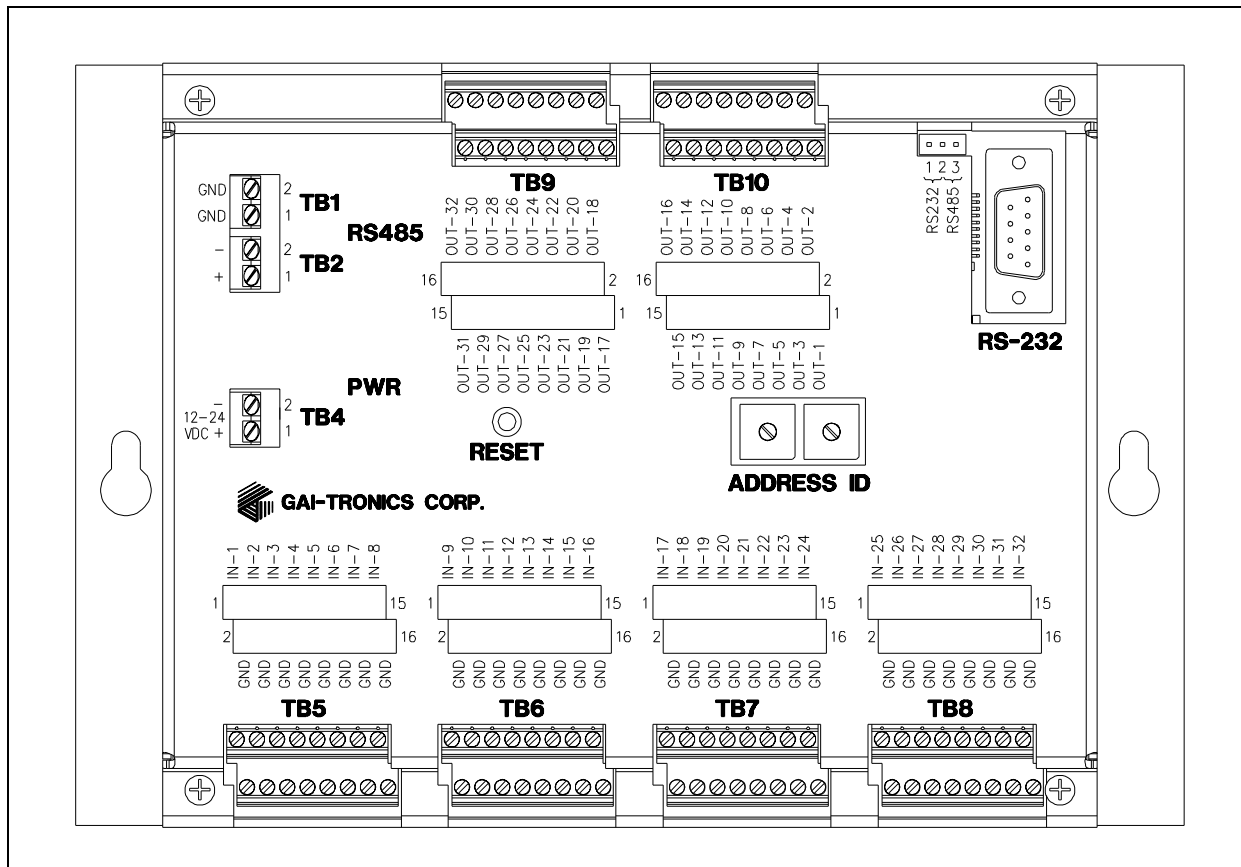

Figure 10. I/O Module Terminal Block Layout
**NOTE:** The ground connections for the outputs on the I/O controller are TB1:1, 2 and any unused input ground terminals, which are the even number terminals of TB5, TB6, TB7 and TB8. Refer to Figure 10.